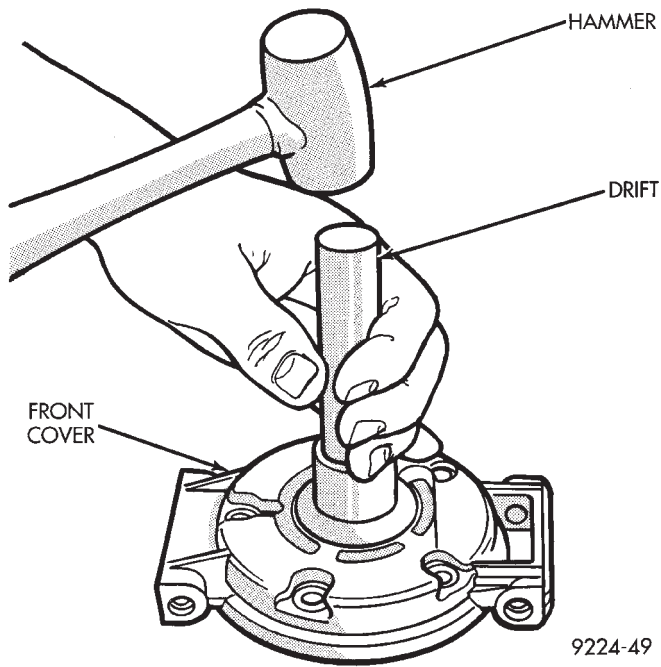

Fig. 13 Removing Seal
(9) Place compressor front cover on a flat surface with neck of cover facing up. Using a brass drift, press out seal assembly (Fig. 13).